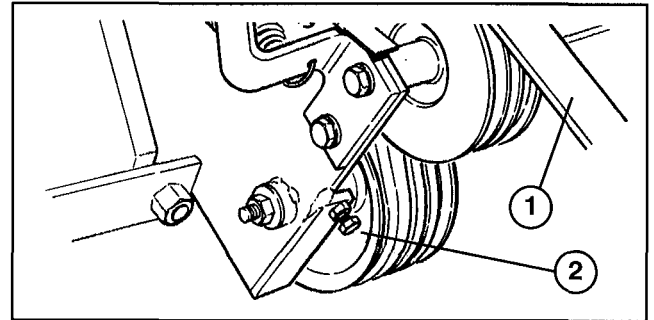

Figure 38
3. If coring head drive belt (Fig. 38) does not properly engage or disengage when entering or exiting the ground, check belt adjustment. Coring head mechanism should begin rotating 1" before tines contact turf.
C. Loosen adjusting screw jam nut (Fig. 38) on top of idler pulley bracket.
D. With engine running at idle speed, rotate adjusting screw (Fig. 38) until coring head just barely starts to creep or stops. Then tighten adjusting screw one more turn. Tighten jam nut.